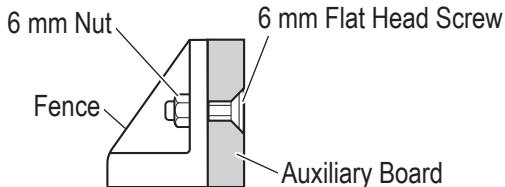
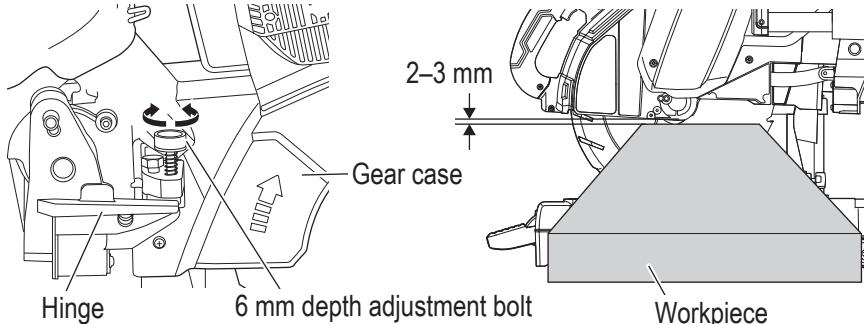

Fig. 23
Fig. 24
## 6. Cutting large workpieces (Fig. 23, Fig. 24)
There may be case when a complete cutting cannot be done depending on the height of workpiece. In this case, mount an auxiliary board with the 6 mm flat head screws and the 6 mm nuts using the 7 mm holes on the fence surface (two holes on each side). (Fig. 23) Refer to "SPECIFICATIONS" for the thickness of the auxiliary board.
To adjust the lower limit position of the saw blade, follow the procedure (1) shown in Fig. 24.
- (1) Lower the motor head, and turn the 6 mm depth adjustment bolt and make adjustments so that there can be a clearance of 2 mm to 3 mm between the lower limit position of the motor head and the top of the workpiece at the saw blade's lower limit position where the tip of the 6 mm depth adjustment bolt contacts the hinge.